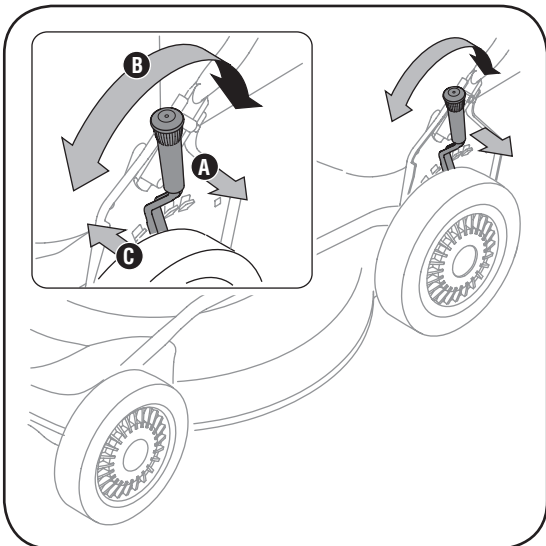

Figure 3-7: Use lever to adjust the cutting height.
1. The cutting height adjustment lever is located above the rear left wheel. See Figure 3-7.